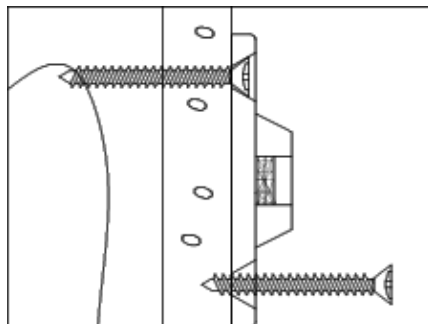
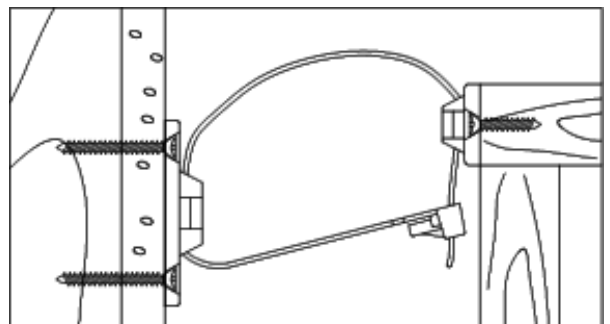

Figure 2
Figure 3
3) **MOUNTING THE WALL-SIDE MOUNTING PLATE :** Position the wall-side mounting plate along the selected stud mark so that it will be adjacent the furniture-side mounting plate when the furniture item is moved to its final position. The wall-side mounting plate should be about ONE inch lower than the furniture-side mounting plate (See Figure 3). Use the TWO Long screws to secure the wall-side mounting plate to the wall. Remember to position the wall-side mounting plate vertically so that both screws will engage the selected wall stud (See Figure 2).